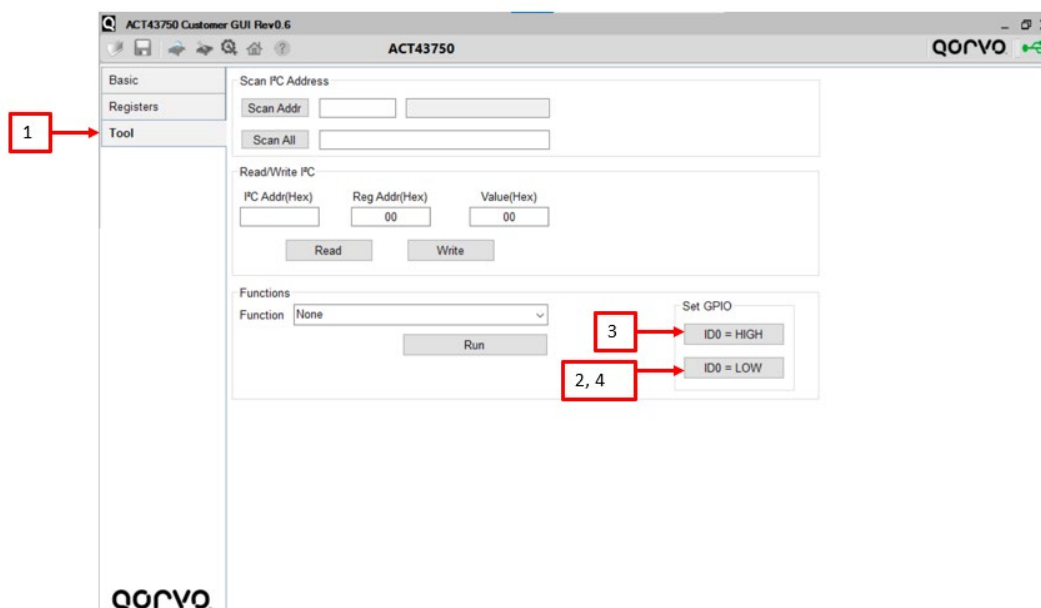

Figure 4. ACT43750 GUI interface to set GPIO
In the ACT43750 GUI. Refer to Figure 4 for GUI interface.
2. Before turning ON the DC supplies, Refer to figure 4
1. Using the GUI, click on the ID0 = LOW button to disable the ACT43950. Refer to figure 4 for the detail